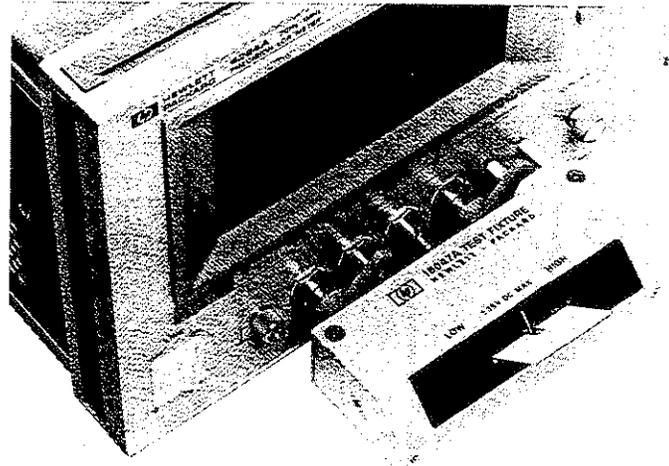

Figure 6-20. Connecting A Shorting Bar
- f. Connect a shorting bar to the HP 16047A to set up the SHORT condition as shown in Figure 6-20.